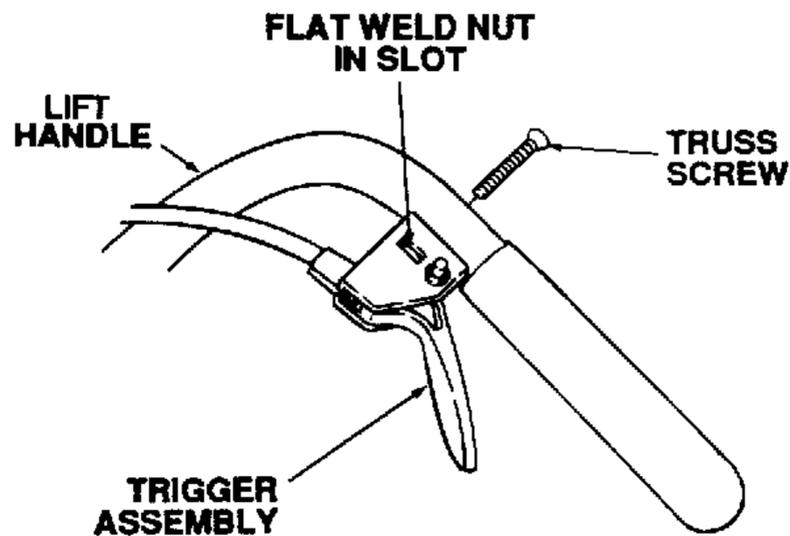

Figure 7-33. Installing Trigger Assembly.
- While holding the flat weld nut (21) in position, place the trigger assembly against the lift handle (22) and fasten with the truss screw (20). See Figure 7-33.